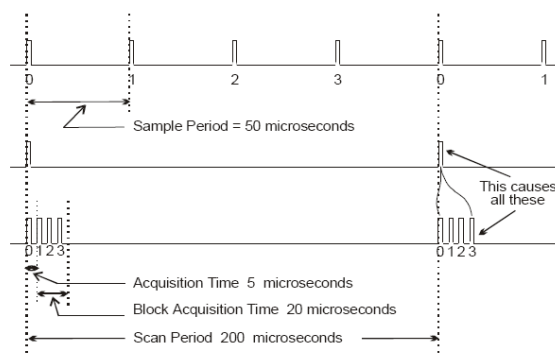

Figure 5.23
- Consider an example where four channels are being sampled at a total throughput rate of 20 kHz, corresponding to a channel scan rate of 5 kHz. Figure 5.23 shows that in continuous scanning mode, the total scan time is 200  $\mu\text{s}$ , with the samples evenly spaced every 50  $\mu\text{s}$ .